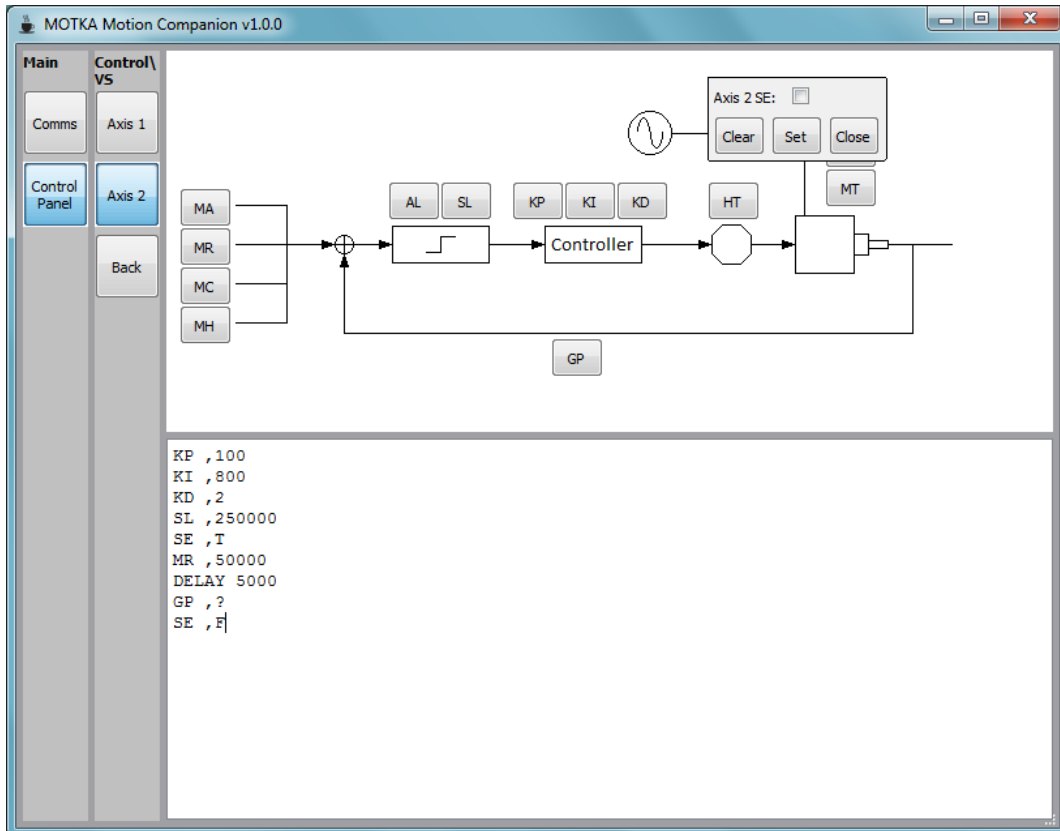

Figure 10: Final script generated.
- Select the *SE* button, uncheck the checkbox prompted in a popped dialog box. The *SE ,F* will be created in the *Command Pane* once we *Set* it. *Close* the dialog box. The final script generated is shown in Figure 10.